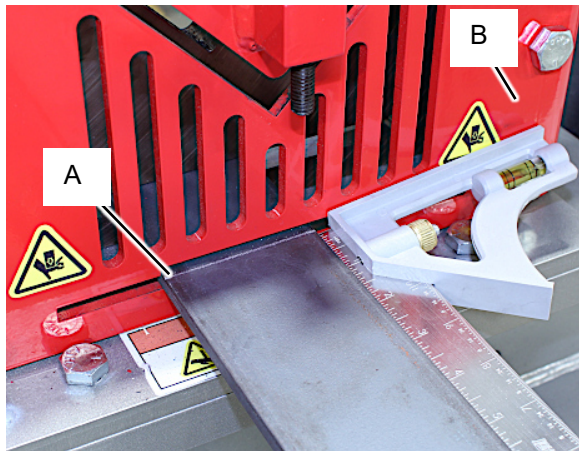

Figure 13
Referring to Figures 13:
5. Place bar stock into the material hold-down and position your cut mark adjacent to the front surface of the hold down. (Fig. 13, A)